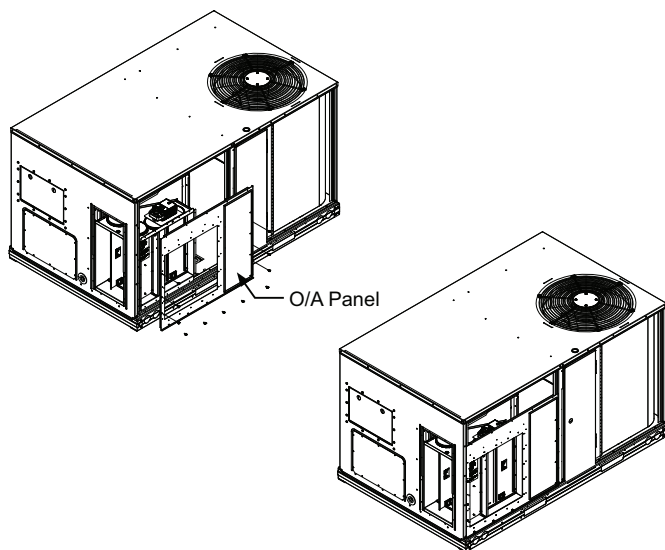

Fig. 4 — Attach O/A Panel
6. Attach O/A (Outside Air) panel over the panel opening, then lift the economizer. Match the ID (inside dimension) of the panel with the ID of the economizer, then attach using provided screws. (See Fig. 4.)